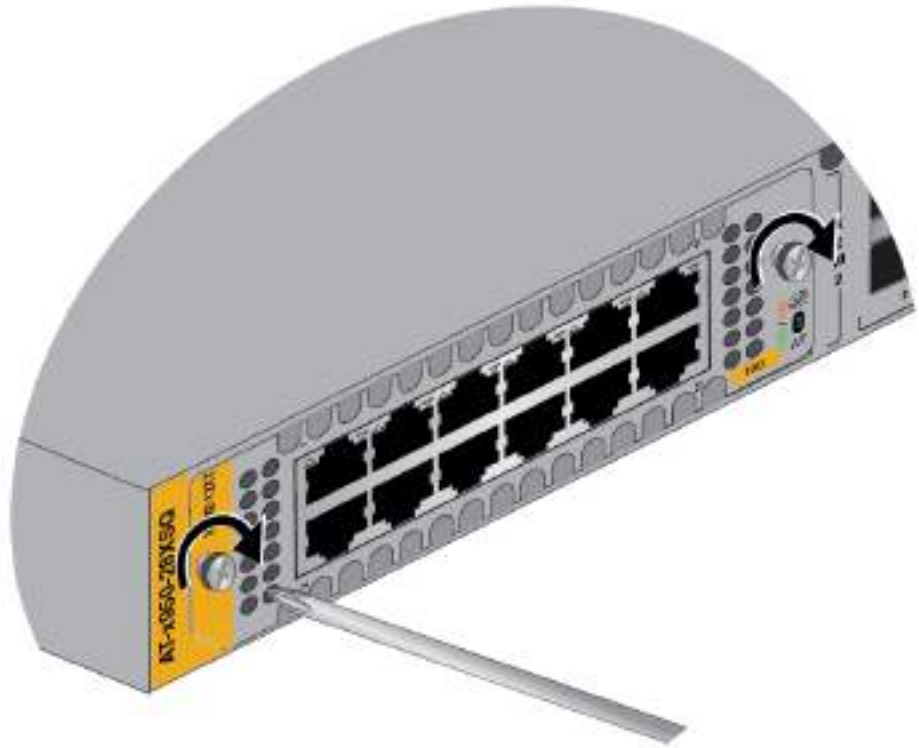

Figure 58. Tightening the Two Captive Screws on the Ethernet Line Card
6. Tighten the two captive screws on the card to secure it in the switch. Refer to Figure 58 on page 101.